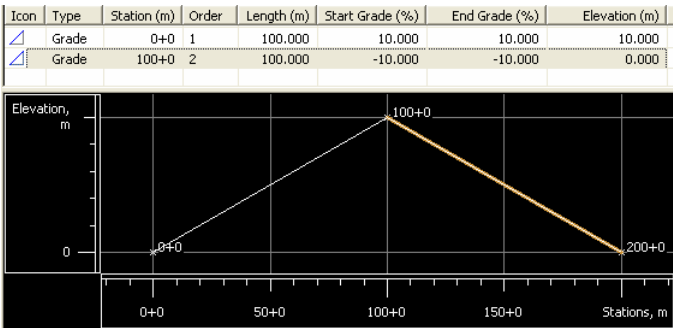

Figure 9-58. Table and Graph Panes Display the Created Grades
- Click **OK**. The Table and Graphic panes of the right panel of the *Roads* tab displays the created grade (Figure 9-58).